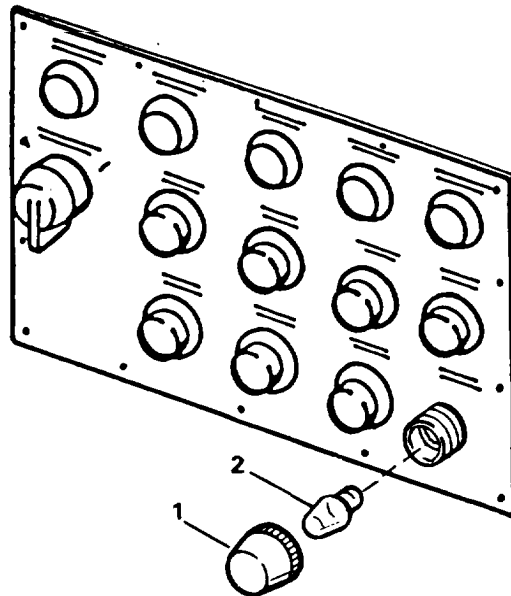

Figure 3-7. Replace Indicator Light Bulbs
- a. Unscrew colored light lens (1, Figure 3-7)
- b. Twist bulb (2) slightly to left and remove.